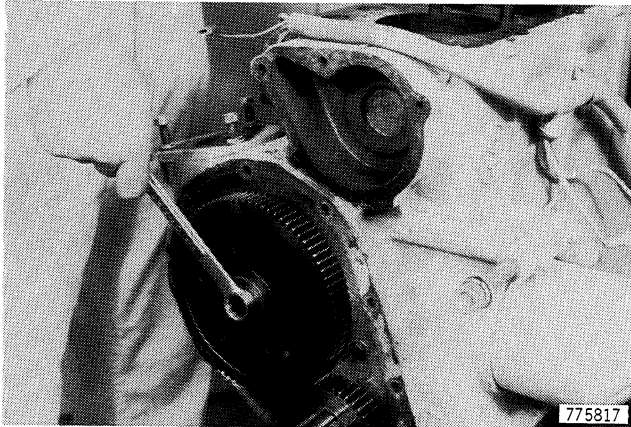

Figure 71
- 6. Remove the cap screw from the gear on the camshaft, Figure 71.